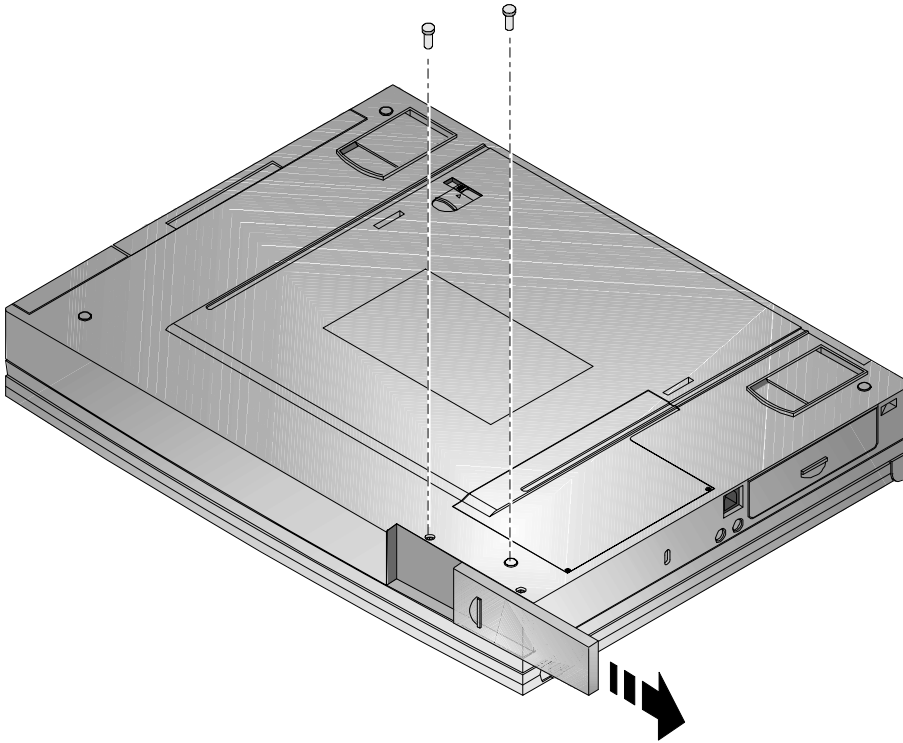
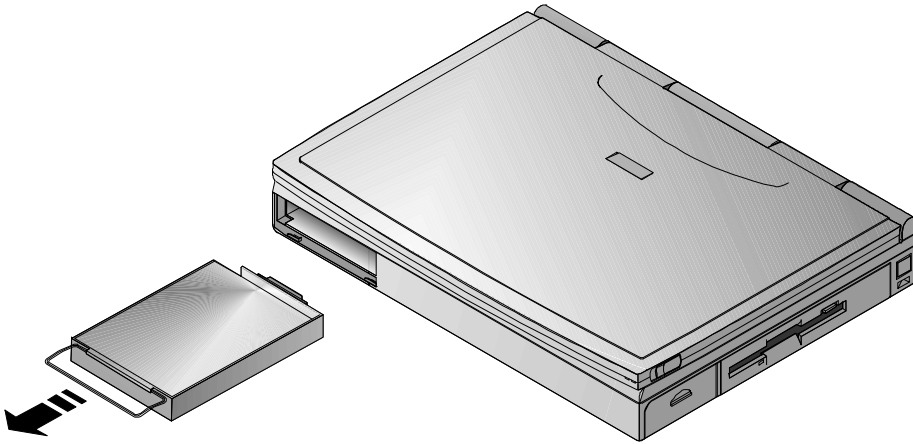

Figure 6-9: Removing the HDD (step 1)
Figure 6-10: Removing the HDD (step 2)
Eventually you may find that your notebook's HDD space is limiting. Upgrade to a larger capacity HDD to provide additional hard disk space. The installation of an additional HDD is relatively simple. Please refer to Figure 6-9 and Figure 6-10.
2. There are two Philips head screws located on the bottom of the notebook. They secure the HDD into the unit and prevent it from being damaged. Remove these two screws. (Figure 6-9)
3. Slide the HDD module plastic cover in the direction of the arrows shown in Figure 6-9.
4. Gently remove the HDD from its housing, by pulling on its handle in the direction of the arrows shown in Figure 6-10